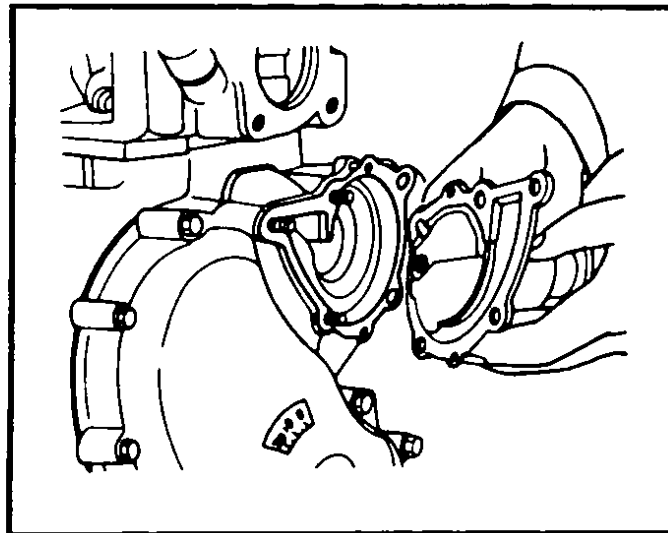

Fig. 105 Removing water pump – Model B210
- 4 Remove pump assembly and gasket from the front cover, Fig. 105